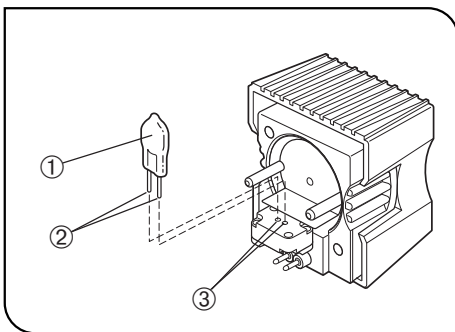

Fig. 17
1. Holding the bulb section ① with a piece of gauze, etc., insert the pins ② all the way straight into the pin holes ③ on the lamp socket. (Fig. 17)
2. Aligning the guide pins ④ with the guide holes ⑤ on the rear of the illuminator stand, push the plugs ⑥ into the socket ⑦.